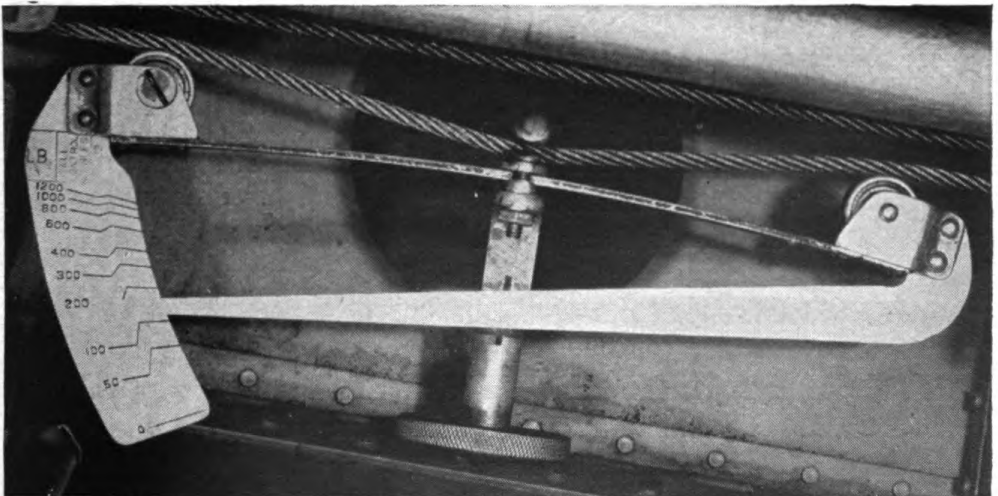

Figure 45. Tensiometer in use.
(2) Like any other measuring instrument, the tensiometer should be handled carefully. Rough treatment will cause it to lose its accuracy. To measure the tension on a control cable, the controls should first be locked in neutral. The tensiometer is then placed on the control cable with the two rollers on one side of the cable and the clamp on the other. The hand wheel is turned, drawing the clamp in until the cable touches the spring. The pointer will then indicate the cable tension on the gauge. (See fig. 45.)